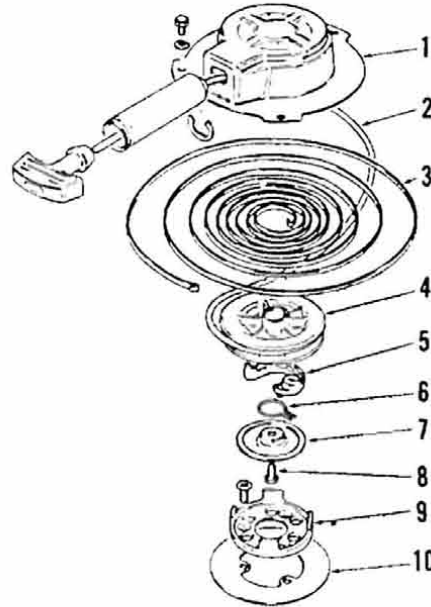

Fig. SZ1-8—Exploded view of manual starter assembly.
Refer to Fig. SZ1-8 for exploded view of manual starter assembly. Starter may be removed as a complete unit by removing three cap screws securing starter assembly to power head. To disassemble starter, proceed as follows: If rewind spring (3) remains under tension, pull starter rope and hold rope pulley (4) with notch in pulley adjacent to rope outlet. Pull rope back through outlet so rope engages notch in pulley and allow pulley to slowly unwind. Remove cap screw (8) and disassemble unit. Be careful when removing rewind spring (3) to prevent personal injury.